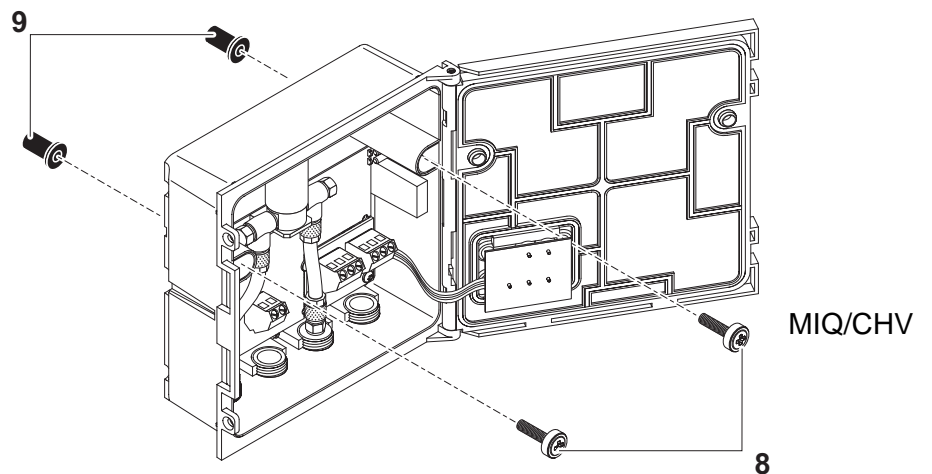

Fig. 3-3 Premounting the ISO blind nuts
- 6 Insert the cheese-head screws (pos. 8 in Fig. 3-3) with the plastic washers in the drilled mounting holes in the housing and loosely screw in the ISO blind nuts (pos. 9).
7	Attach the prepared module to the lid of the back module. At the same time, ensure that the two clips on the front module click into place in the lid of the back module. Then tighten the two screws (pos. 8 in Fig. 3-3).